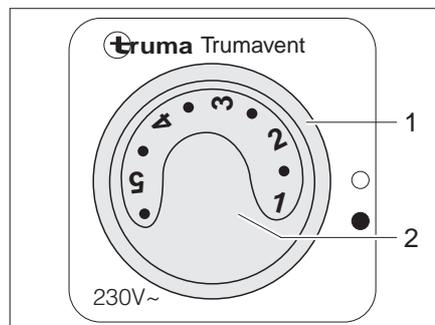

Fig. 112 Operating switch for circulation fan (240 V)
- Turn the rotary switch (Fig. 112,1) to "●".
- Turn the knob (Fig. 112,2) to the required position of the circulation fan.
- Turn the rotary switch (Fig. 112,1) to "○".